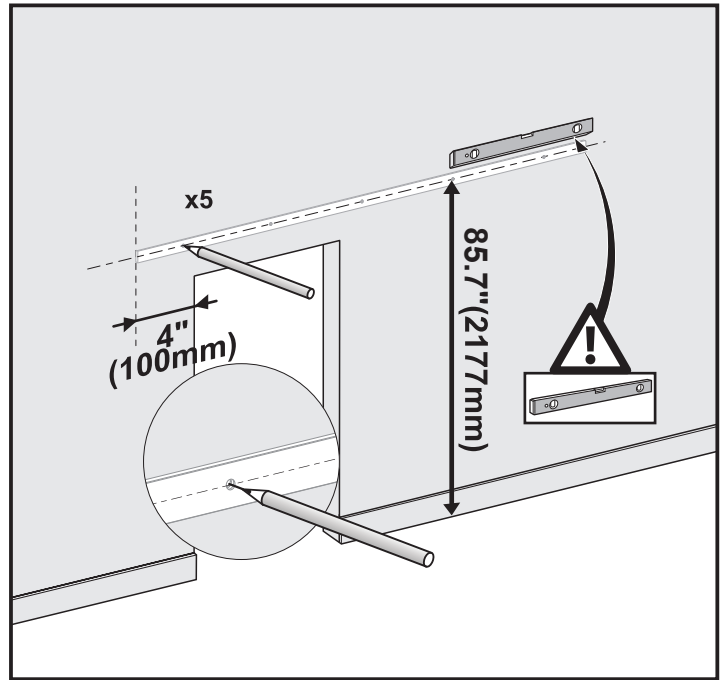

Fig 6
1. This step requires a second person. Measure the center of **Track [03]** from the floor as figure shows. Measure one end of **Track [03]** from the edge of opening as figure shows. (Fig 6)